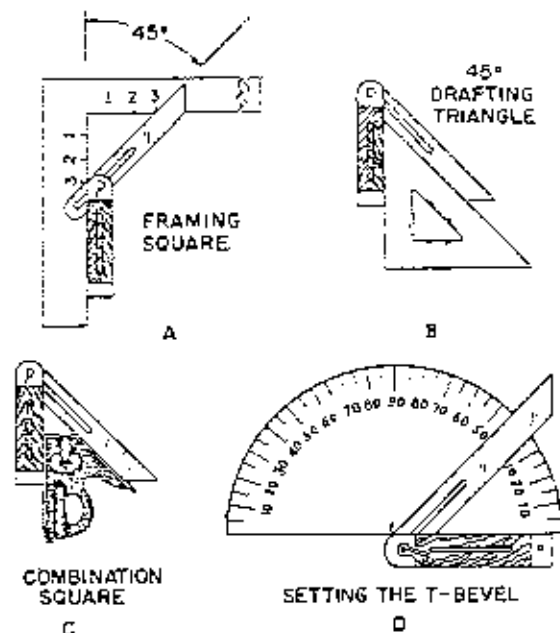

Figure 2-3-1.—Adjusting a sliding T-bevel to a desired setting.
A sliding T-bevel can be set to any desired angle by using a protractor. Loosen the blade screw as before, and hold the bevel with its blade passing through the graduation selected, and the center of the protractor as shown at (D) in figure 2-3-1.